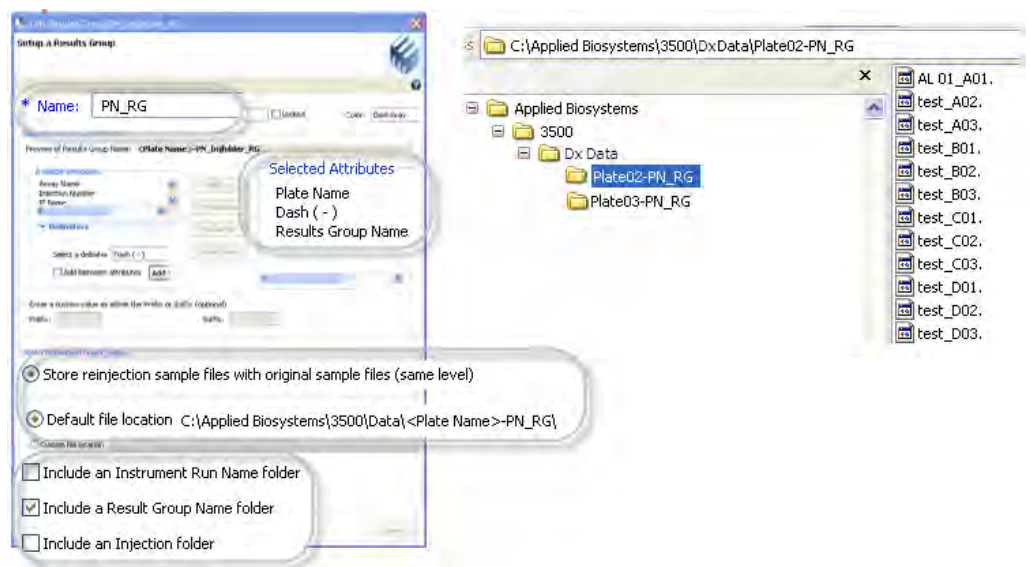

Figure 13 PN_RG results group
- Figure 13 shows the factory-provided PN_RG results group and the folders created when it is used. This results group does not create a folder for each injection. All samples for a plate are stored in the same folder. If you include two plates in a run, a separate folder is created for each plate.